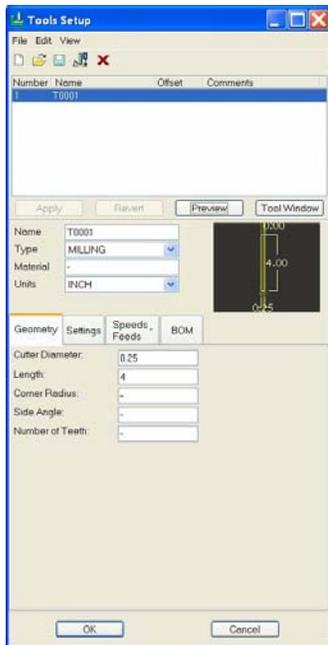

Figure 1.32
- 3) Tool setup table pops up. Enter the tool values as shown in Figure 1.32 and APPLY OK.